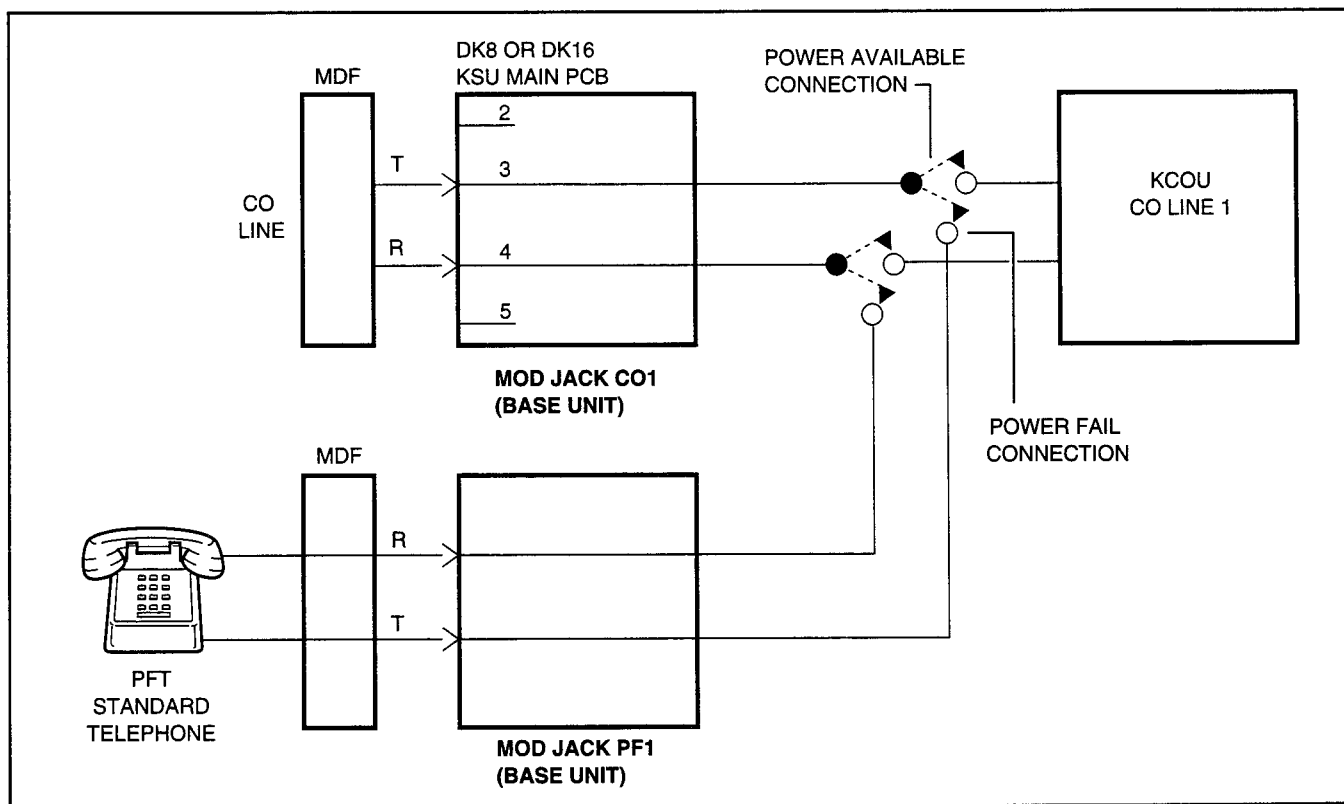

FIGURE 5-24
17.10 DK16 Power Failure Emergency Transfer Installation. Install the dedicated emergency standard telephone as follows (see Figure 5-24):